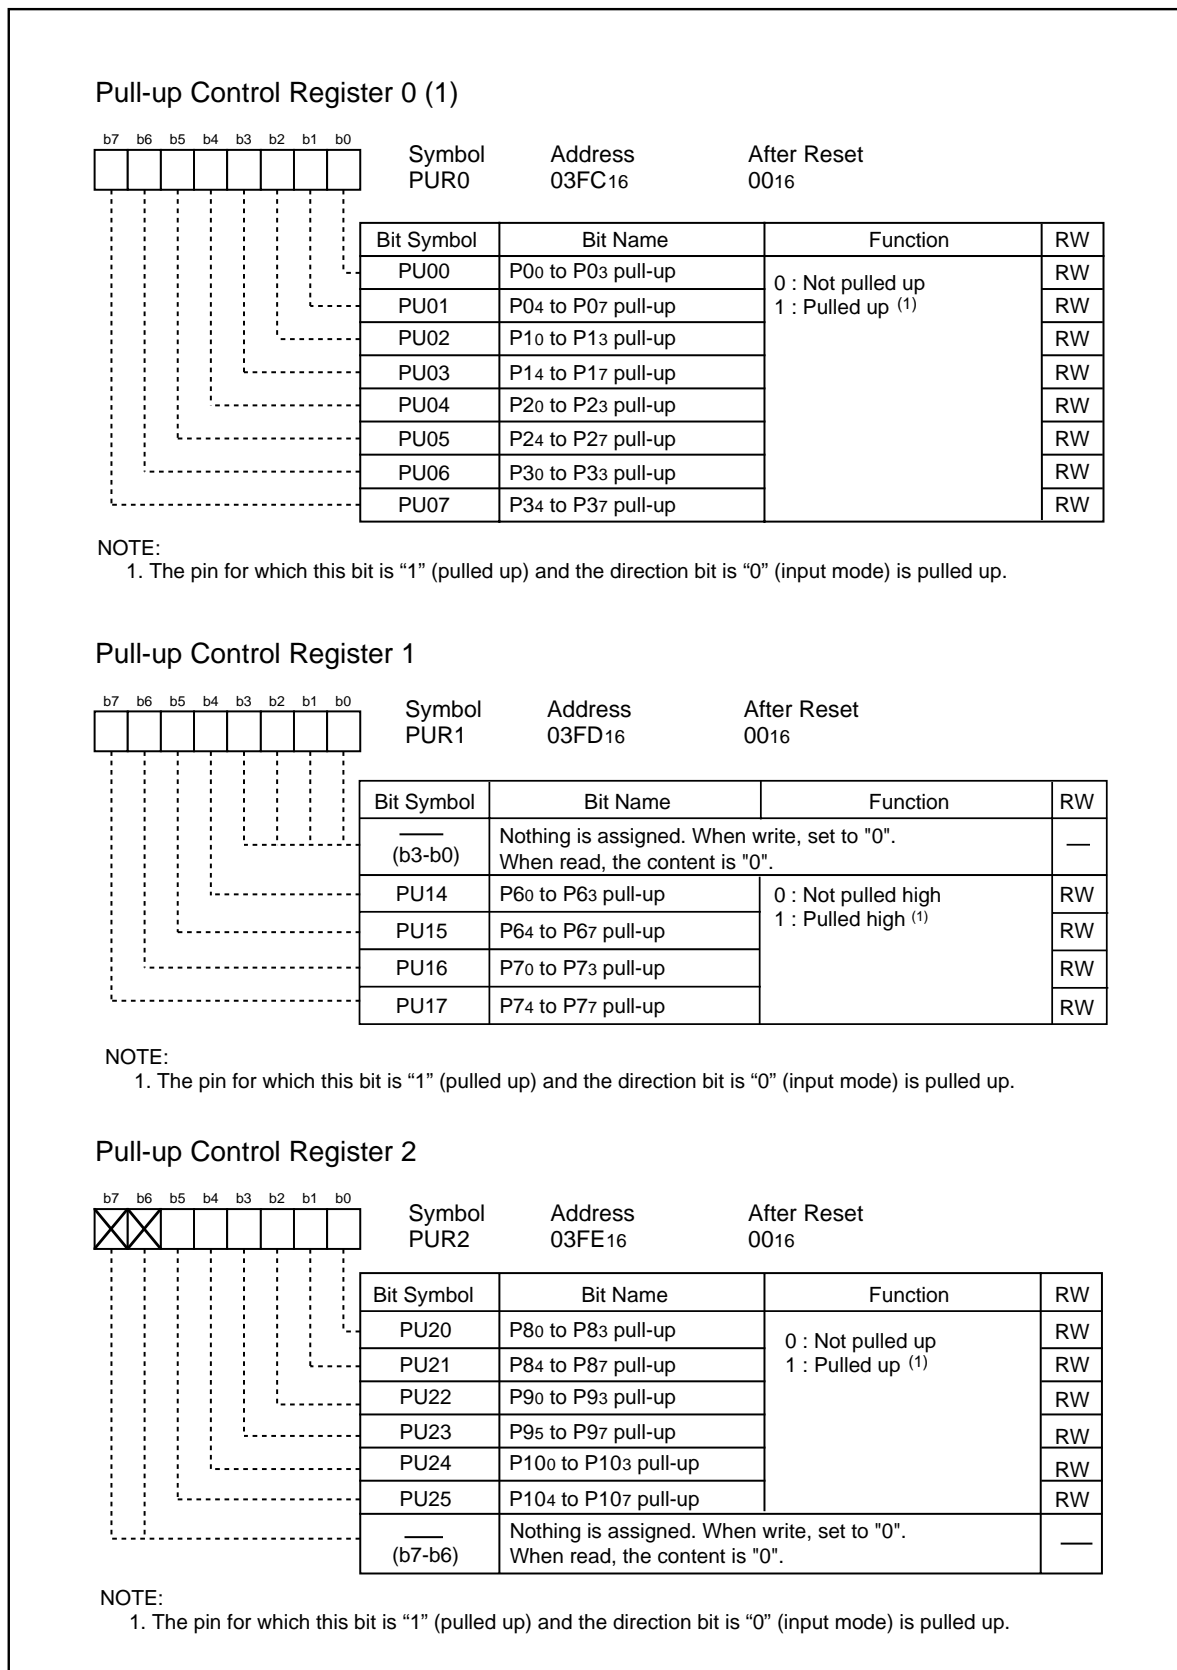

Figure 17.8 PUR0 to PUR2 Registers
**Figure 17.8** shows the PUR0 to PUR2 registers.